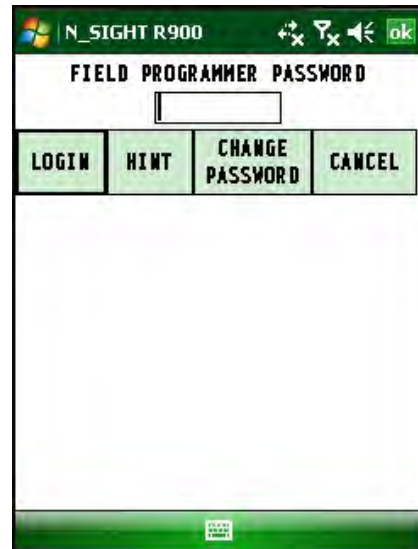

Figure 8.29 Field Programmer Menu
- 1 On the **Field Programmer** Menu, touch or click **Configure ProRead**. See Figure 8.29.